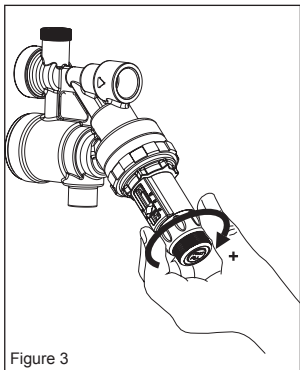

Figure 3
4. To increase the system pressure, turn the adjusting knob clockwise (see figure 3).